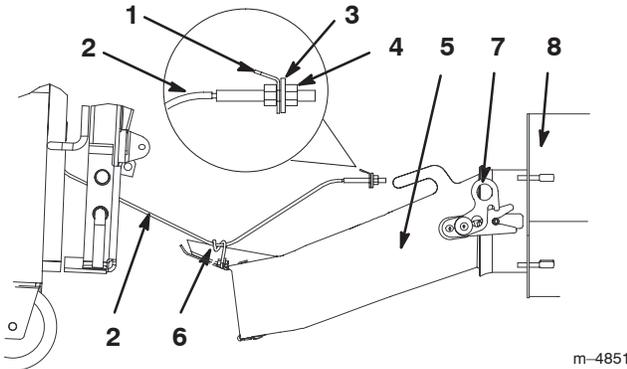

Figure 41
4. Flip seat up and unlatch plenum from both sides of blower inlet (Fig. 41).
5. Pull plenum out from blower housing and place it on the ground (Fig. 41).
6. Pull or slide plenum out from between deck and traction tire (Fig. 41).
3. Flip seat up, reach down and direct plenum into blower housing. Ensure the plenum latches lock into both sides of blower housing (Fig. 41).
4. Reach through from lefthand side in front of traction tire, lift plenum and wind cable counter clockwise around plenum cable guide (Fig. 41).